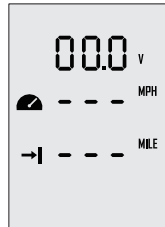

Figure 6-1
Step1: In power-on state, press “M” button and hold to enter the preference setting page as shown in Figure 6-1. Users can choose display items based on personal needs and preference.
Step2: On the preference setting page, the blinking item is the item waiting to be set. Press the “^” button to view options for the blinking item. For example, in Figure 6-1, if “V” is blinking on the preference setting page, it means that “V” has other alternate options. Just press the “^” button, and “V” will switch to “%”, i.e. the displayed item is switched from voltage to battery level.